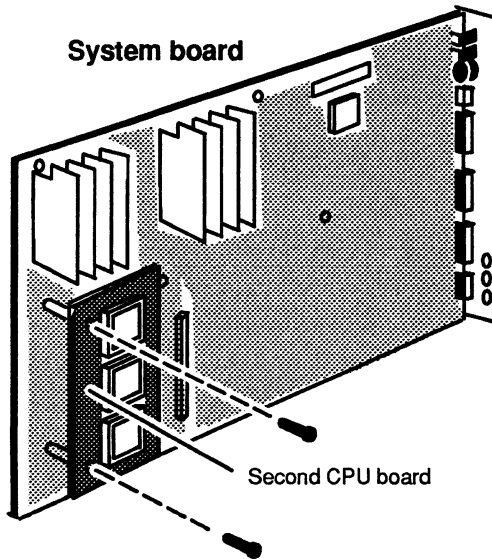

Figure 4-5 Securing the Second CPU Board to the System Board
3. Secure the second CPU board to the system board with the two screws as shown in Figure 4-5.